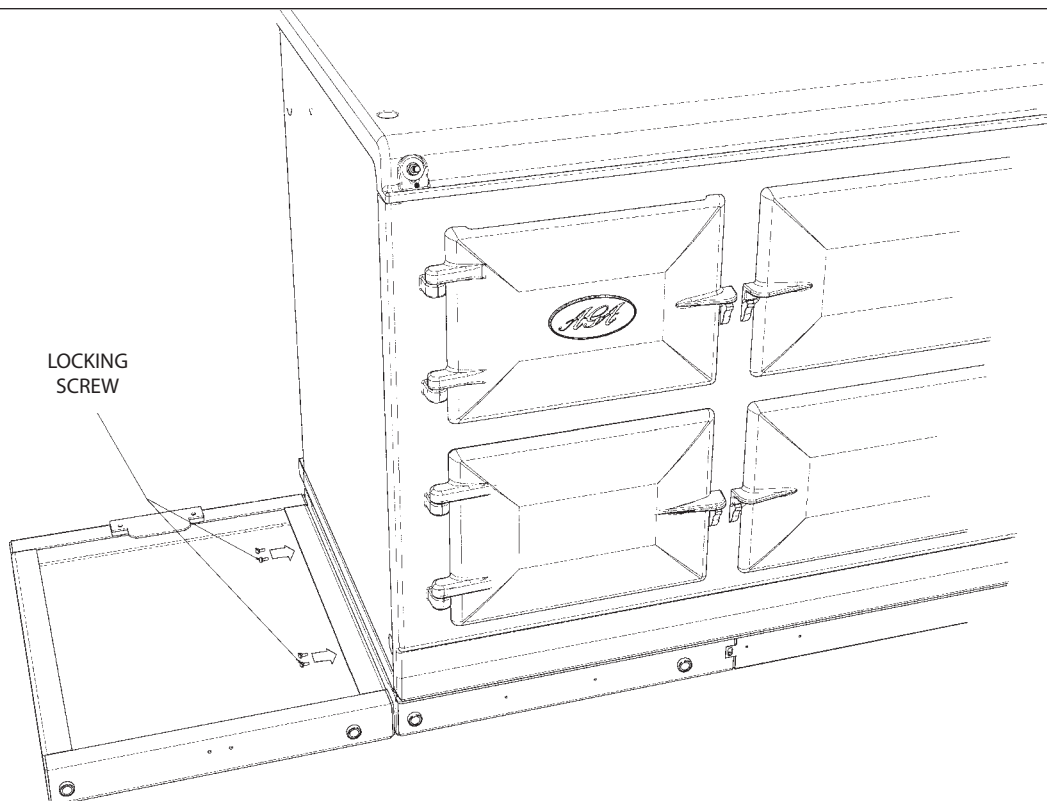

Fig. 17.4
3. Attach hotcupboard plinth to the AGA R7 plinth using M6 screws and washers provided (**Fig. 17.4**).